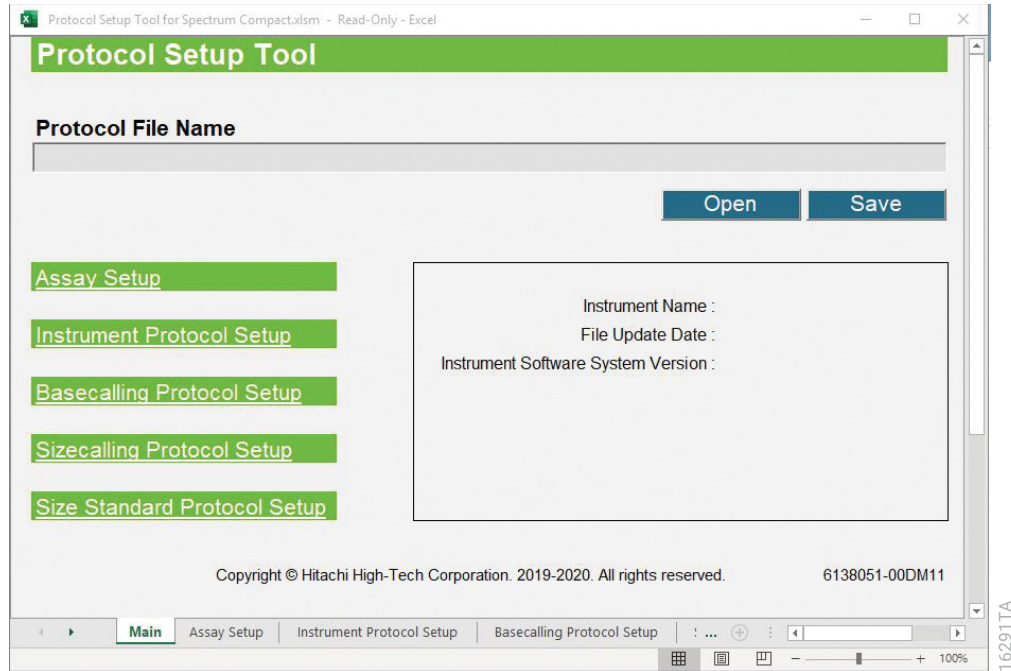

Figure 224. Main worksheet of the Protocol Setup Tool for Spectrum Compact.
1. Open the 'Protocol Setup Tool for Spectrum Compact.xlsm' Excel® macro-enabled workbook. The 'Main' worksheet will be displayed (Figure 224).
- Information on individual protocols or assays can be accessed by either selecting **Setup** on the ‘Main’ worksheet or selecting the tab at the bottom for the appropriate setup worksheet (Figure 224).
- Open the ‘Instrument Protocol Setup’ worksheet by either selecting **Setup** on the Main worksheet or selecting the tab at the bottom for the appropriate setup worksheet (Figure 224).
7. Select the 'Main' worksheet tab followed by **Save** (Figure 224). A 'Save As' browse window appears. Browse to the location (e.g., a USB drive) where you wish to save the new protocol .xml file and save to a folder named Protocols within that location (if folder does not already exist, create a new folder with that name).
1. Open the 'Basecalling Protocol Setup' worksheet by either selecting **Setup** on the Main worksheet or selecting the tab at the bottom for the appropriate setup worksheet (Figure 224).